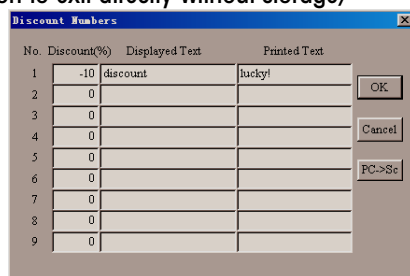

Fig. 6-16
- ☞ Here will show discount dialog box as fig. 6-16.